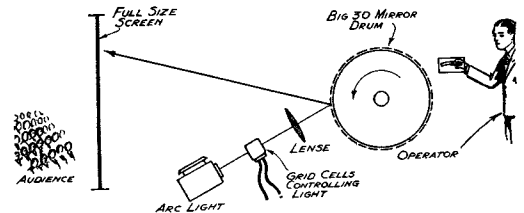

Fig. 11.—THE MIRROR DRUM RECEIVER.
**The Mirror Drum Receiver. (Fig. 11.)**